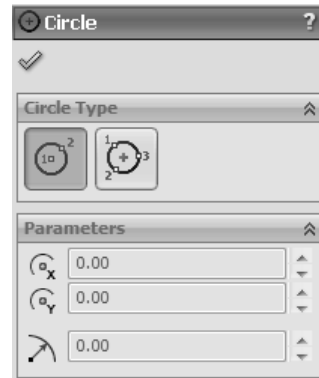

Figure 3-16 The **Circle PropertyManager**
9. Choose the **Circle** tool from the **Circle** flyout in the **Sketch CommandManager**; the **Circle PropertyManager** is displayed, as shown in Figure 3-16.